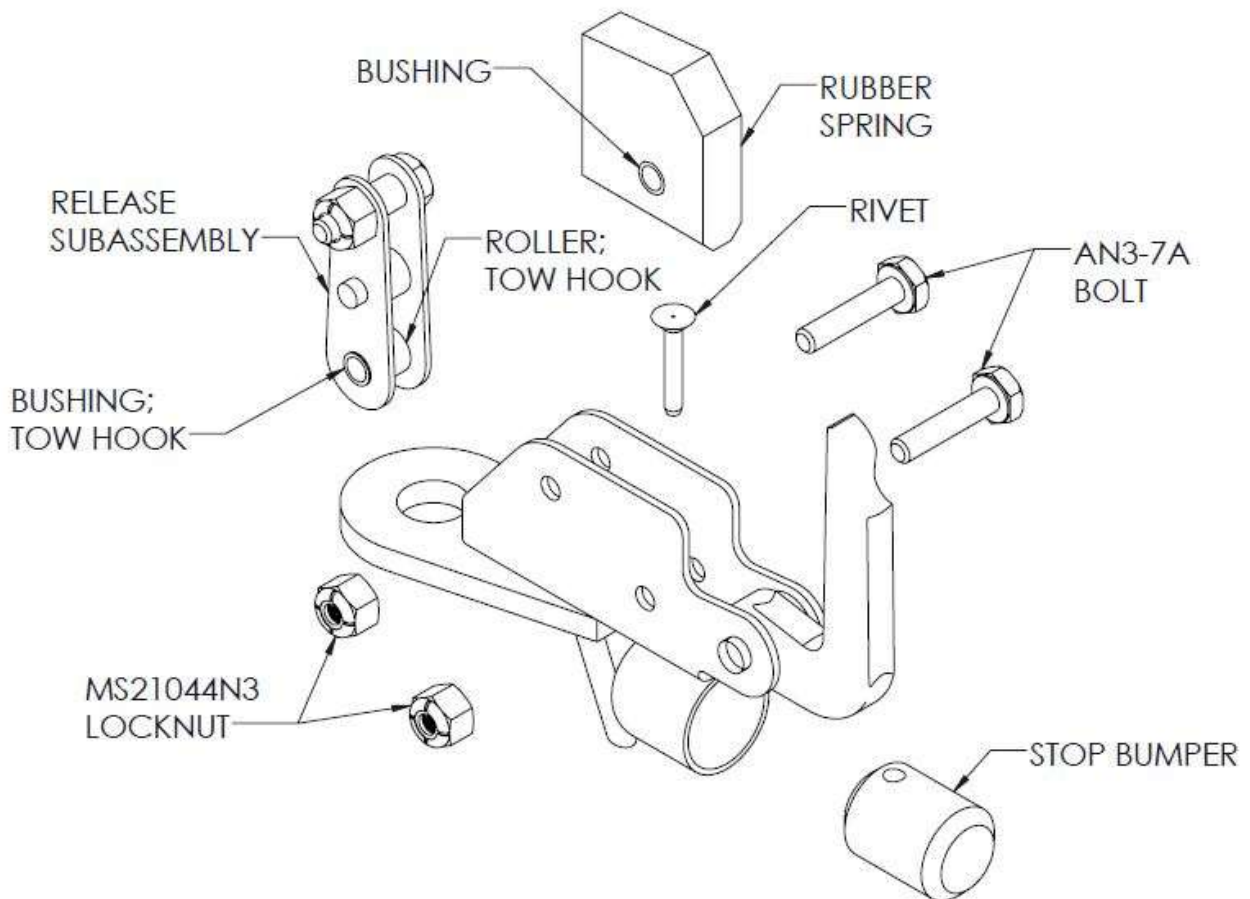

Figure 3.1: Tow Hook Assembly, P/N: 6030 – Exploded View
E. Tow Hook Disassembly Instructions (Refer to Figure 3.1 below)
- 2 Insert the Rubber Spring with Bushing into the Hook Housing. Orient the Rubber Spring in the Hook Housing in such a way that the back, flat side is facing towards the Release Subassembly. Refer to Figure 3.1 above for clarification.
- (c) Release Subassembly (Refer to Figure 3.1)